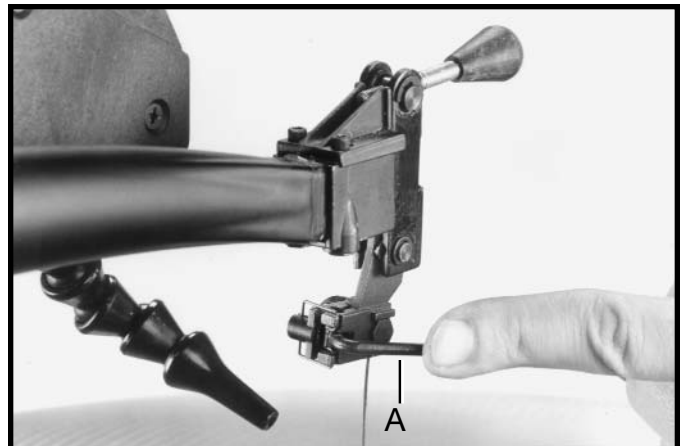

Fig. 22
3. Move lever (A) Fig. 22, forward after adjusting the blade clamping action.